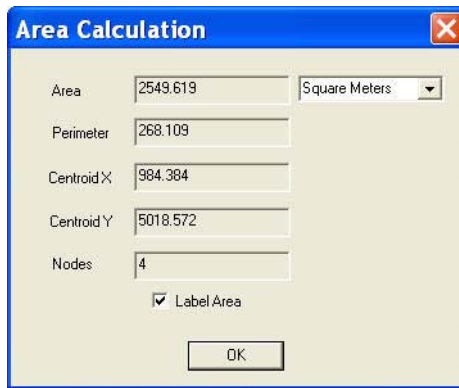

Figure 11-3. Area Calculation Window
- An edge line of a polygon – When an existing polygon is selected, the *Area Calculation* dialog box appears (Figure 11-3 on page 11-3).
- A line which will be one leg of the area boundary – When a line, arc, or string is selected, a path is followed along the lines until a closed boundary area is automatically selected and the *Area Calculation* dialog box appears (Figure 11-3 on page 11-3).